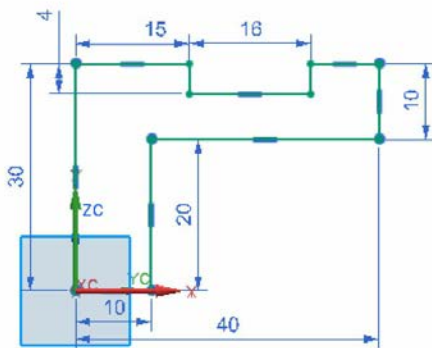

Figure 5-61 Sketch for the base feature
2. Invoke the sketching environment by using the YC-ZC plane as the sketching plane and draw a sketch similar to the one shown in Figure 5-61.